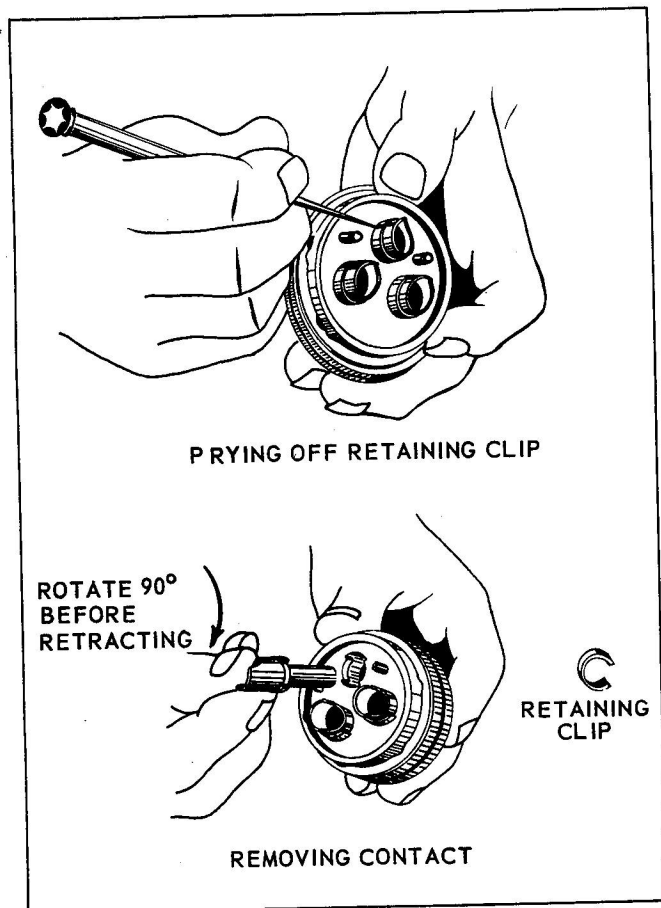

Figure 3-13. Removal of Cannon Clip Held Contacts
- a. Cannon spring clip contacts (see Figure 3-13) are removed by prying off the clip using a small screw driver or scribe. Rotate contact 90° and lift out.